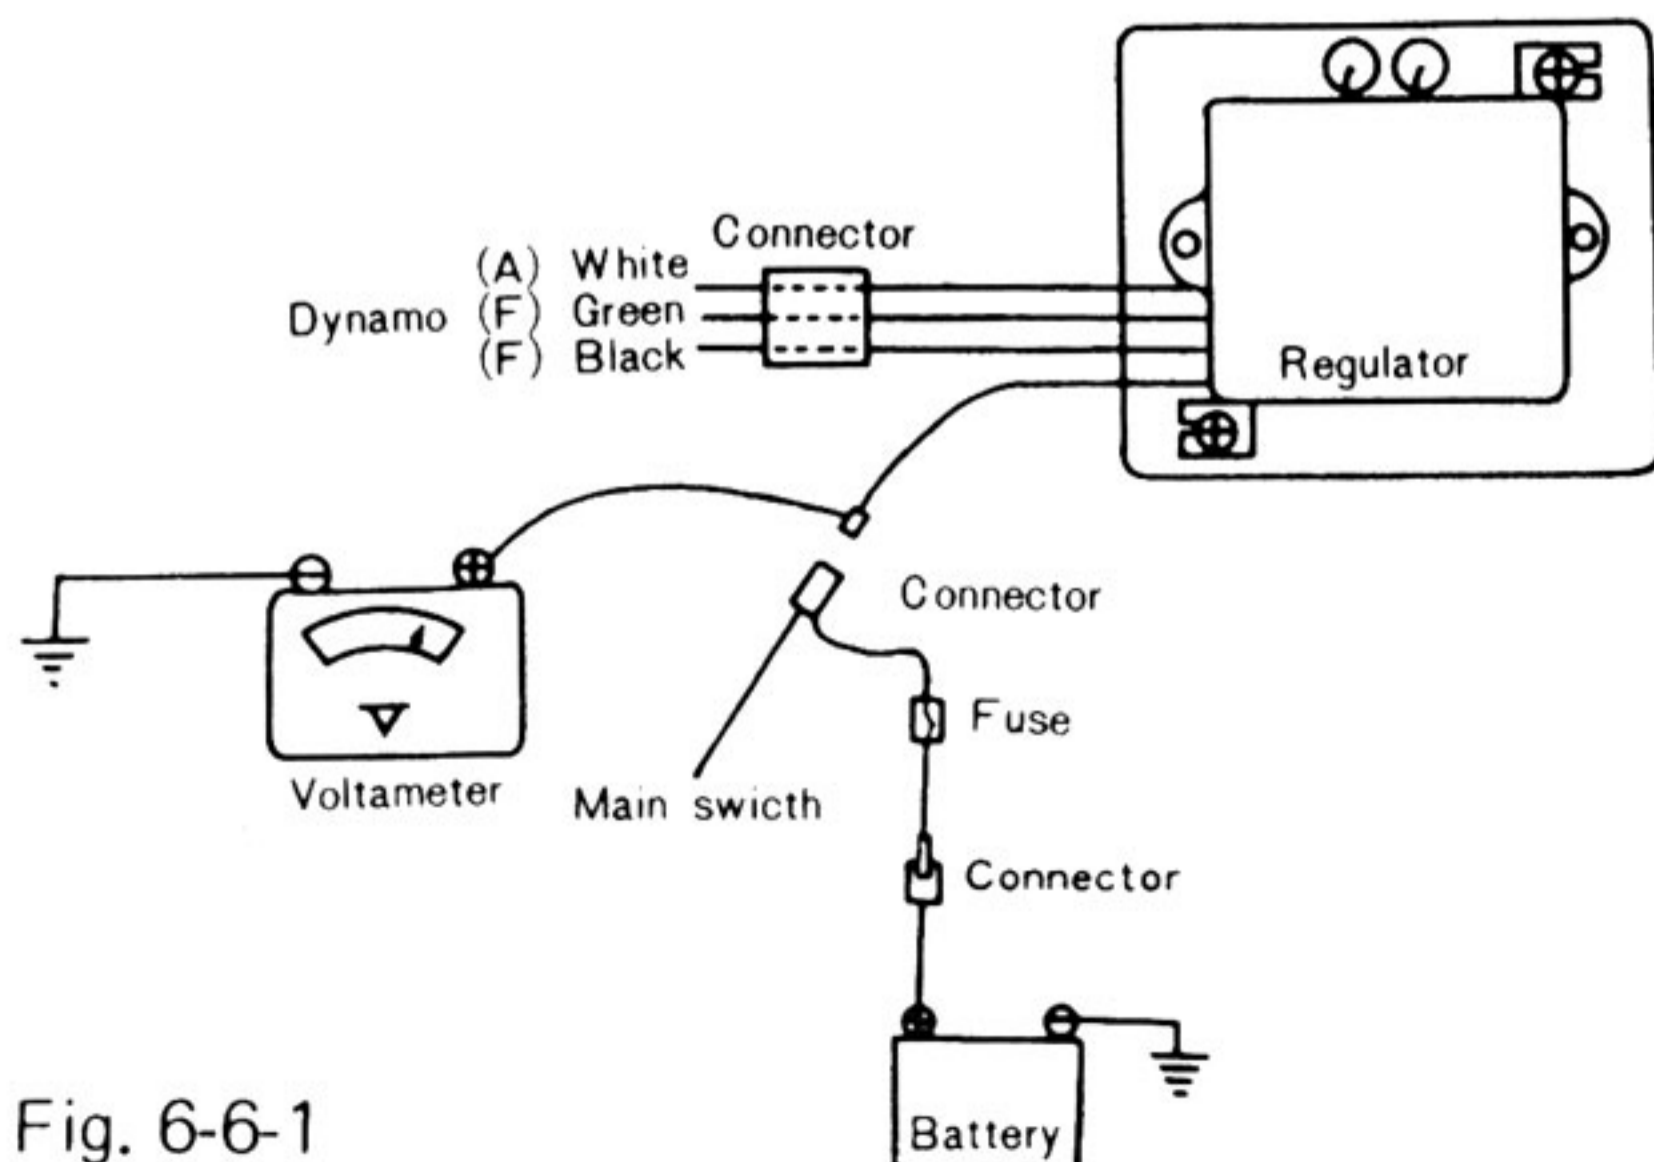

Fig. 6-6-1
- Start the engine and keep it running at 2,500 rpm. Your regulator is correct if the tester reads 15.6 ~ 16.3 V (Fig. 6-6-1)